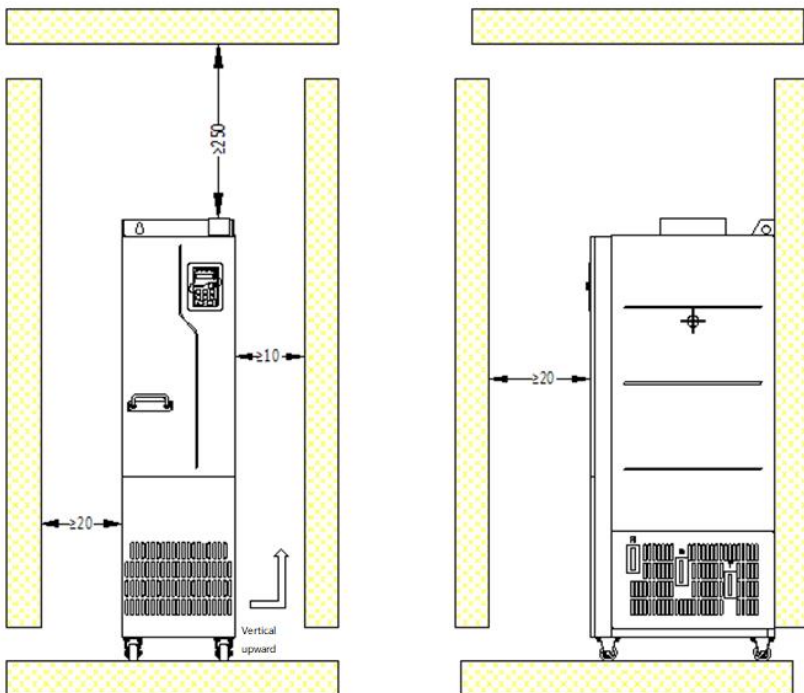

Figure 4-9 Mounting space requirements
- ◇ Figure 4-9 shows the mounting space. You not only need to reserve enough heat dissipation space for the VFD but also need to consider the heat dissipation condition for other devices in the cabinet.